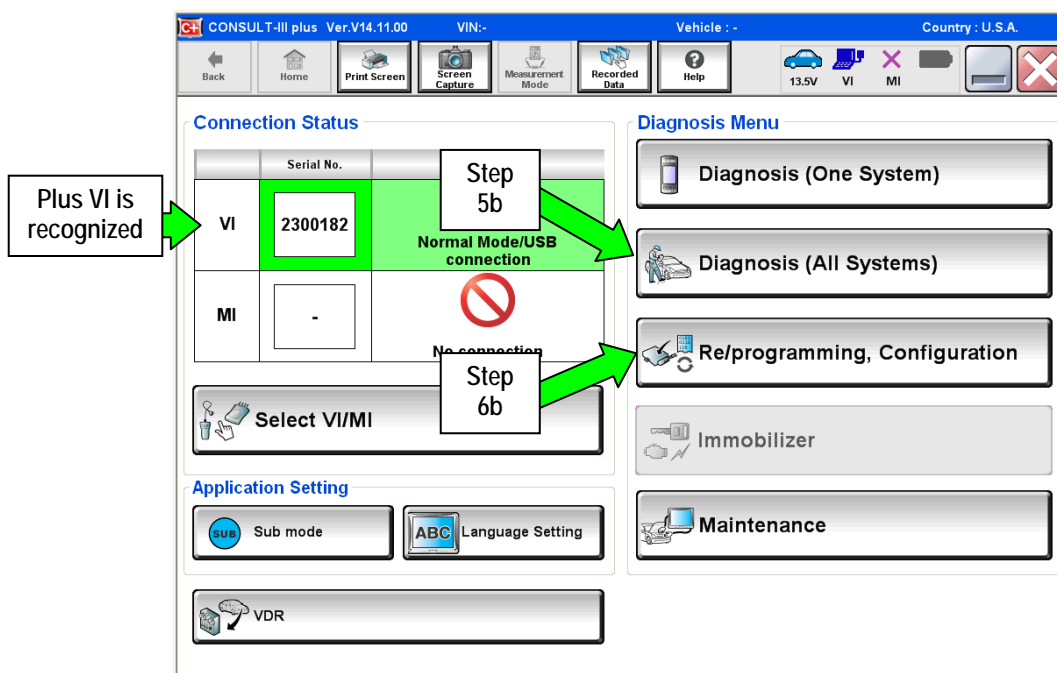

Figure 1
- a. Select the **Home** button, and then select **YES** to return to the screen shown in Figure 1.